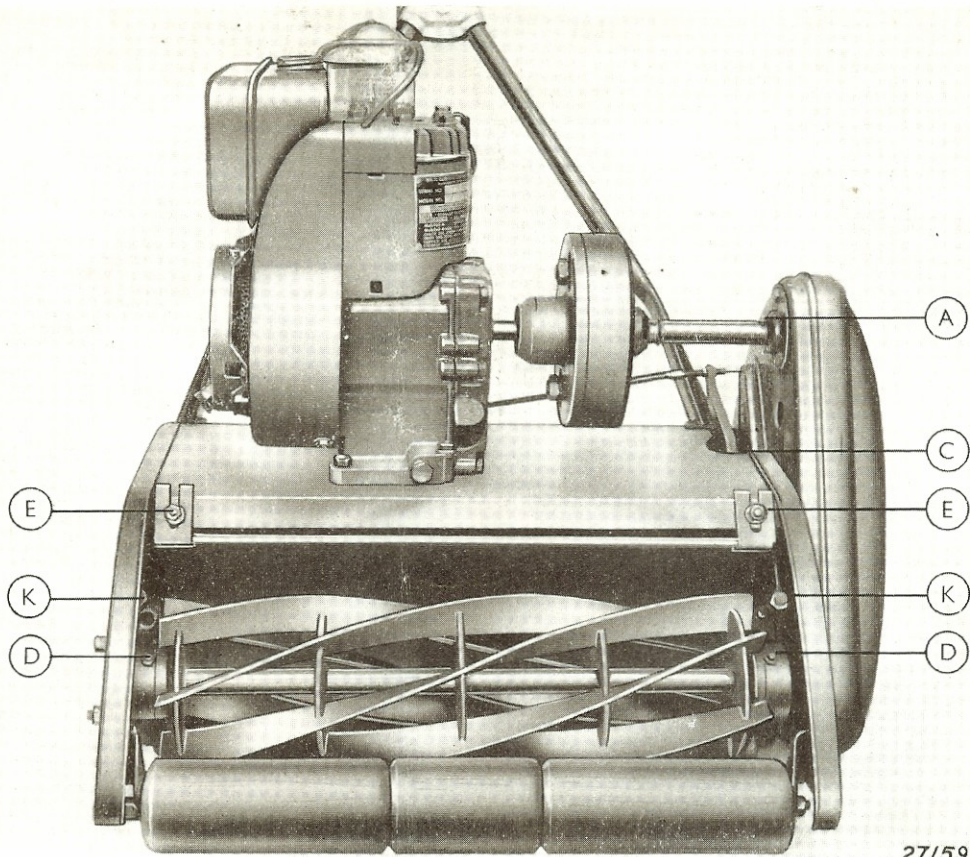
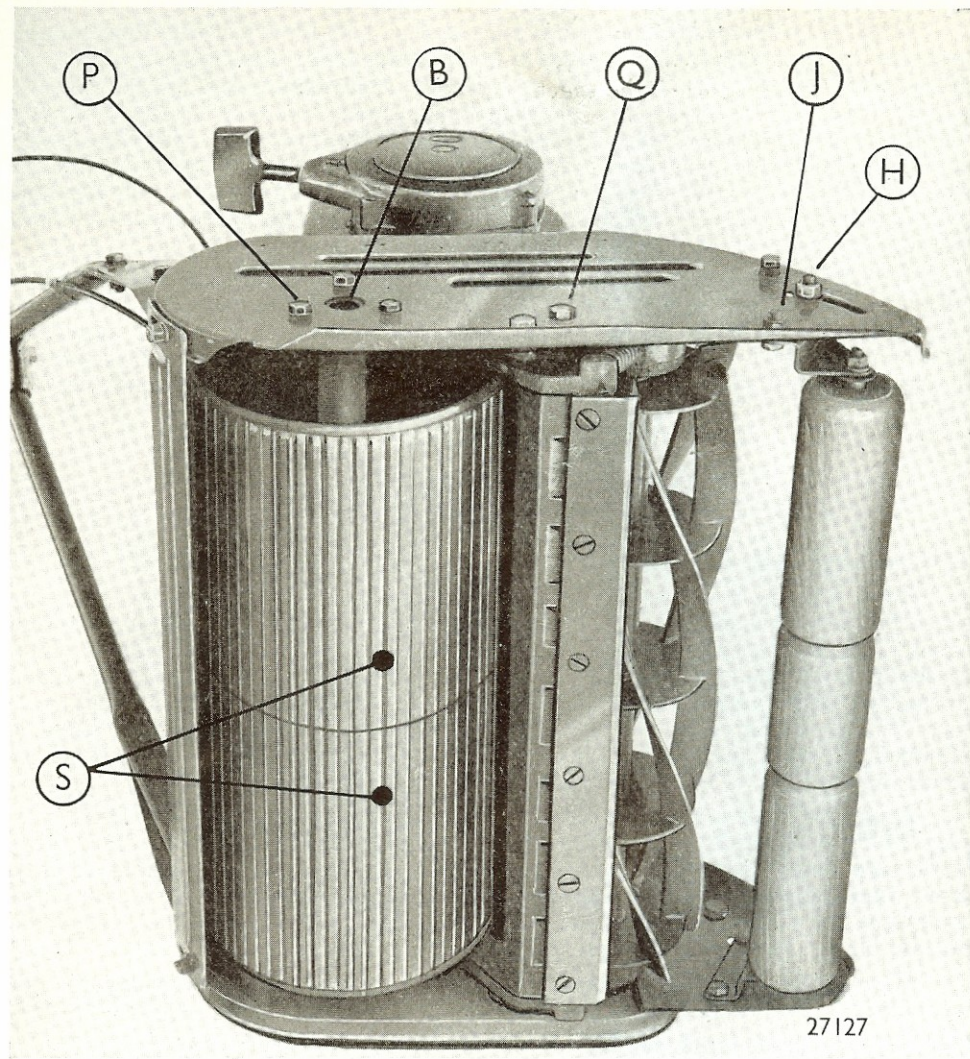

Fig. 3. View of front of Machine.
Fig. 5
1. Clutch shaft bearing through nipple A. (Fig. 3, page 5).
2. Land roll spindle bearings through nipple B in R.H. end of spindle (fig. 5, page 8) and through nipple C in L.H. side of deck plate (fig. 3, page 5).
3. Land rolls, through nipples S which will be found through surface of each roll (Fig. 5 page 8).
4. Cutting cylinder bearings through nipples D (fig. 3, page 5).
To set the cutters a simple method is used, viz. adjusting screws K (see fig. 3, page 5) on either side of the machine. To set the cylinder closer to the bottom blade turn these screws in a clockwise direction, making small alterations to each screw alternatively. When correctly set, the knives should revolve freely and at the same time cut a leaf or piece of writing paper cleanly, when held at the edge of the bottom blade. Make this test over the width of the bottom blade.
When using the machine for cutting at different heights it may be necessary to adjust the concave to ensure a correct "throw" of the cuttings into the grassbox. Adjustment is provided by slackening the two locknuts E (fig. 3, page 5) and moving the concave outwards or inwards as required.
Now unscrew the chain wheel on the land roll spindle noting that this component has a L.H. thread. To prevent the land roll spindle turning with the chain wheel, engage the special key (LCG 427) in the slot at the opposite end of the spindle. After removing the set screws P (fig. 5, page 8) (three each side of the machine) which secure the land roll spindle bearings, the entire assembly may be dropped out of the main chassis.
Remove chaincase cover, concave and driving chains. Prevent the cutting cylinder turning by placing a piece of wood in cutters and unscrew the cylinder pinion, noting that this pinion has a L.H. thread. Remove the two screws Q (fig. 5, page 8) from each side of the machine which secure the cutting unit and the entire assembly can be dropped out of the mower.